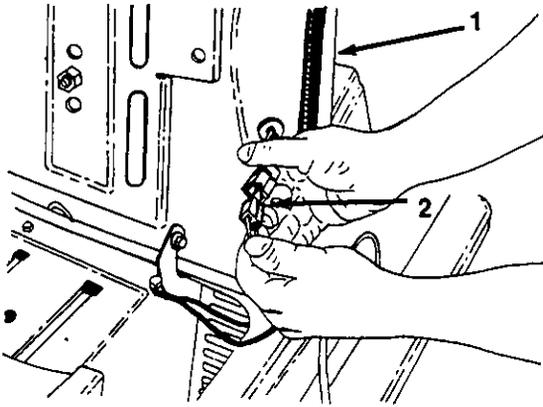

FIGURE 1.
2. Disconnect the seat safety switch wire connection. See figure 1.